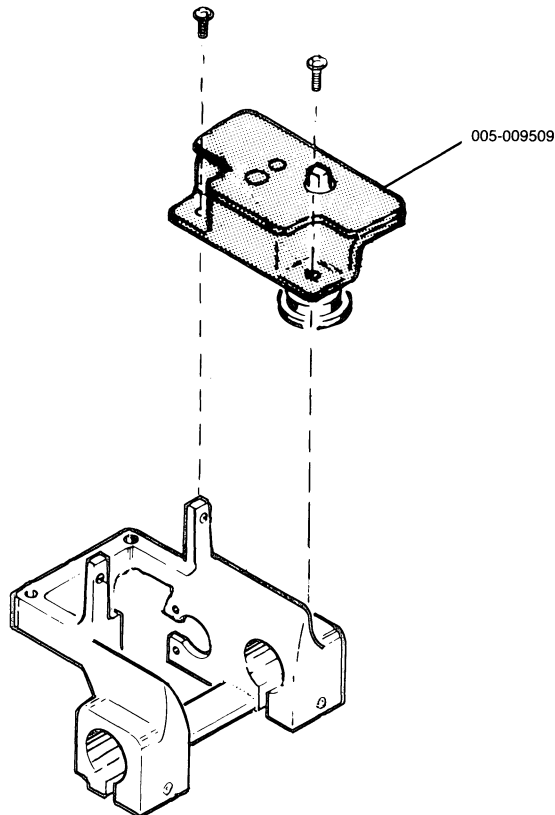

Figure 5.6 Ribbon Gearbox Removal/Replacement
2. Unwind the cable from the capstan of the ribbon gearbox (Figure 5.6).